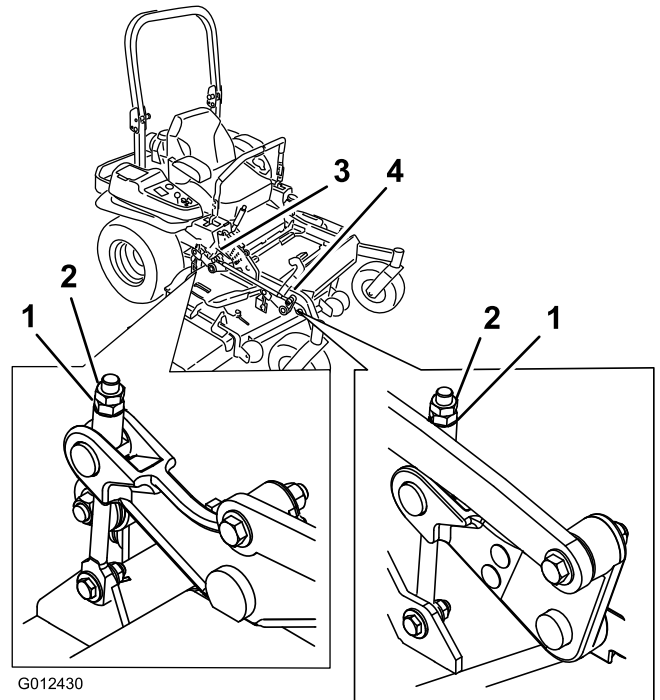

**Figure 91**
5. Push the deck lift pedal all the way forward and the deck will latch at the 5 1/2 inch (14 cm) transport position (Figure 91).